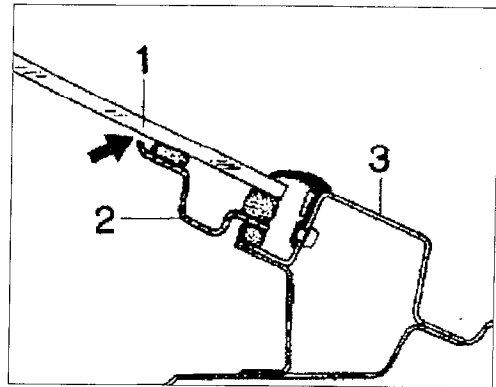

Figure 11
- The rear window mounting frame (2 in Figure 11) touches the rear glass.
- Check for clearance using a 2.0mm feeler gauge (arrow in Figure 11).